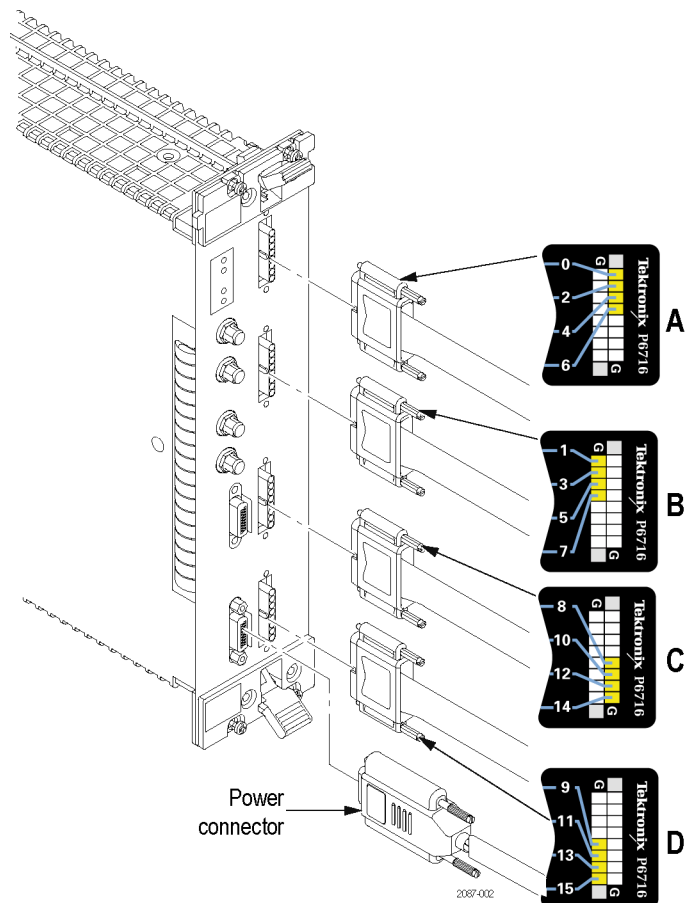

Figure 7: Connecting a 16-channel probe to the TLA7S16 serial analyzer module
1. Connect the module ends of the probe from the downstream data link to the serial analyzer module that will acquire the downstream data. (See Figure 7.)